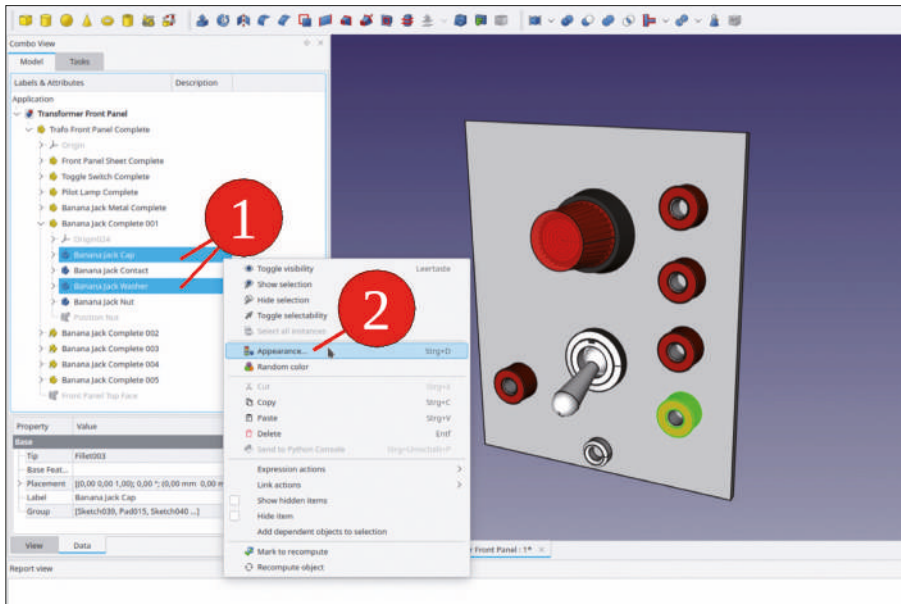

Figure 9-20
11. In the tree view, expand 'Banana Jack Complete 001'. Mark 'Banana Jack Cap' and 'Banana Jack Washer'. Right-click the selection and select 'Appearance...' from the context menu (Figure 9-20).